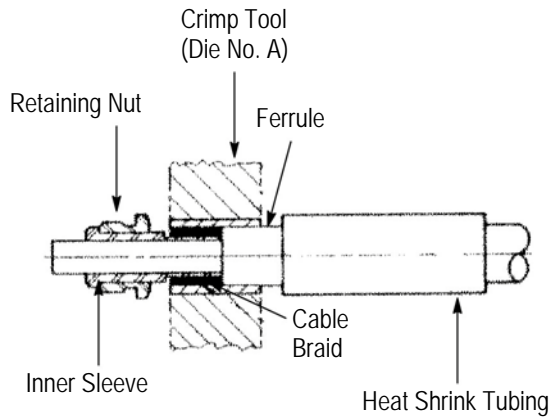

Figure 4
2. Position the loose unit on the dielectric as shown in Figure 4.